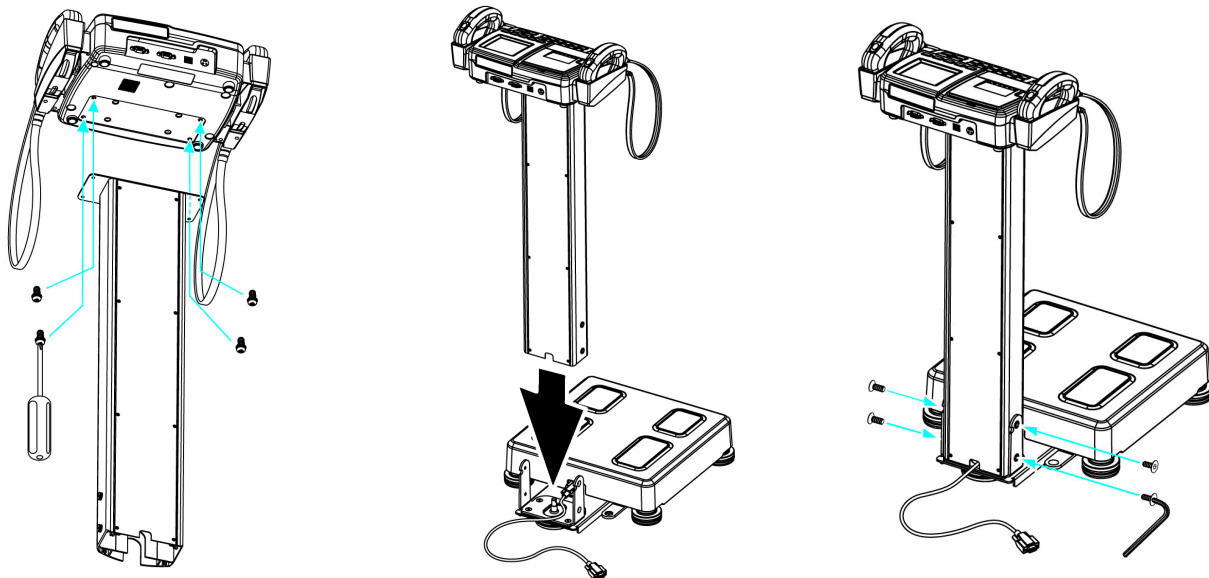

Figure 3-9. Column Attachment
4. Attach the digital display to the column using a screwdriver to attach the display with four bolts as shown on the left hand side of Figure 3-9.
6. Insert the column into the bracket, making sure that the cable is out of the column as shown in the center illustration of Figure 3-9.
7. Insert plate bolts into the holes as shown in the right hand picture of Figure 3-9. Fasten the bolts using a 4 mm Allen wrench (included).